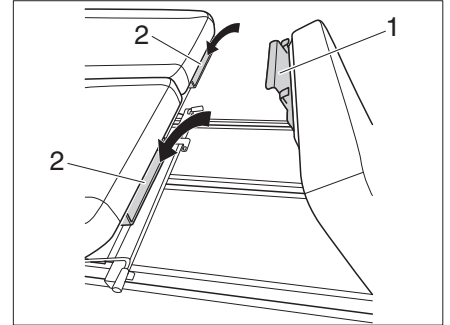

Fig. 3 Attach the bed extension
- Hook the clips (Fig. 3,1) of the bed extension into the brackets (Fig. 3,2) under the seat bench.